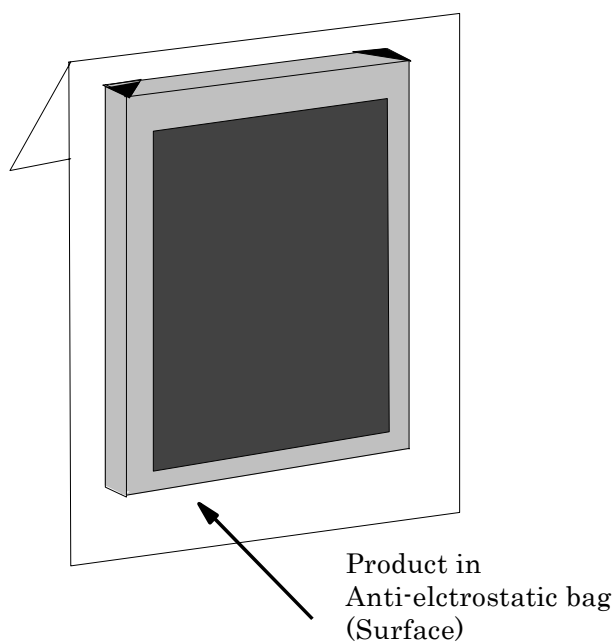

Fig. 7
- Each of LCD module is packed in anti-electrostatic bag(Fig. 7)